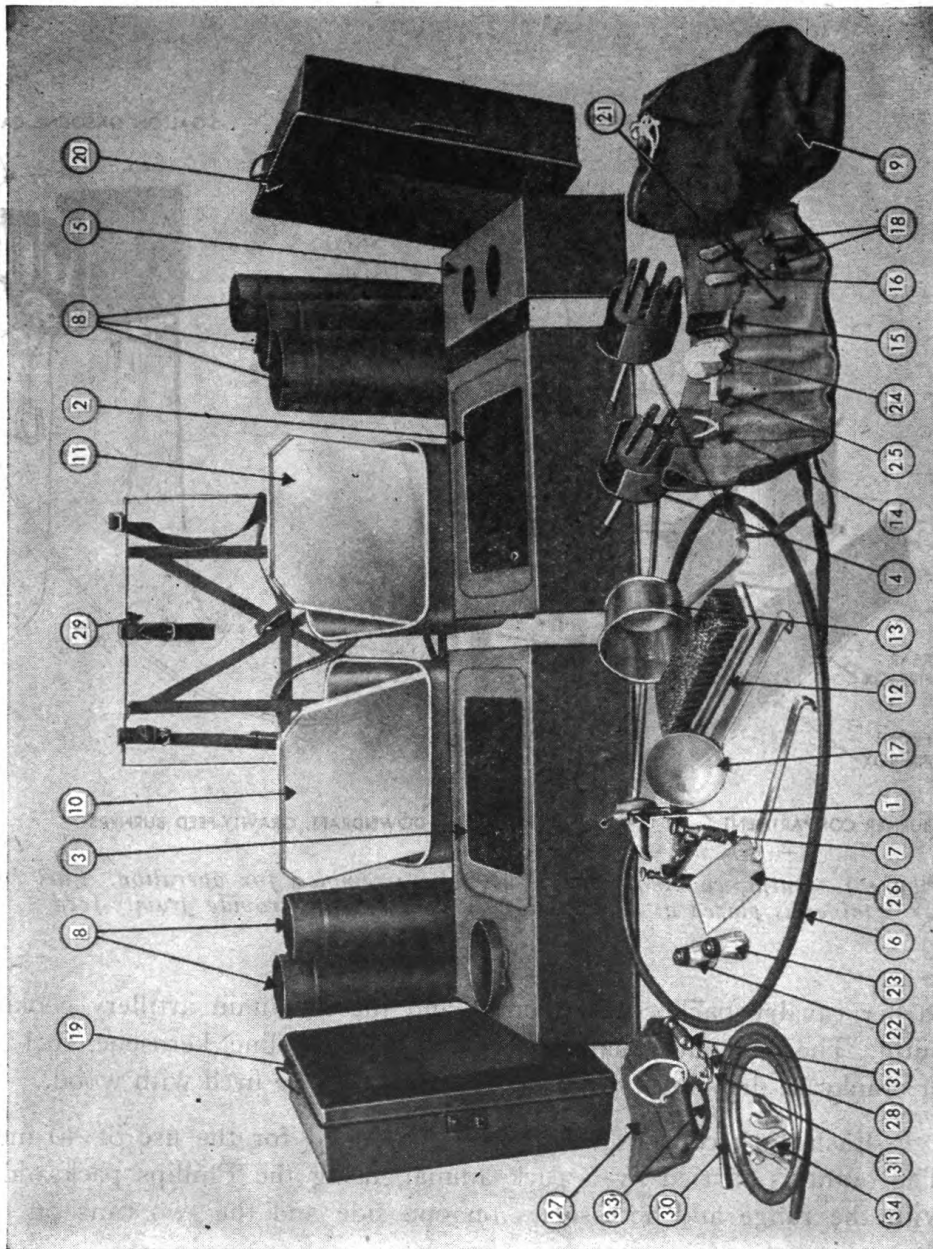

Figure 2. Components and accessories outfit, cooking, pack.
- (1) The range and its accessories.
- (2) The utensils.
- (3) The tool and maintenance set.
b. The components of the outfit (fig. 2) are itemized below: